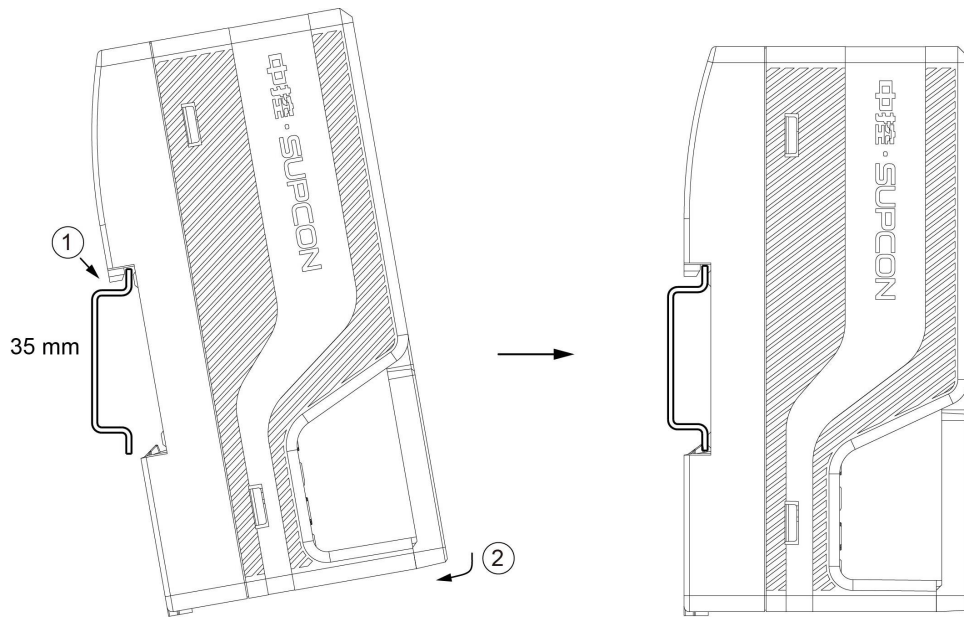

Figure 6-2 Mount the module
- 1) Attach the side without buckle of the module to the rail, as ① shows in Figure 6-2.
- 2) Rotate the module and fix the side of active buckle into the rail as ② shows in Figure 6-2 to complete the installation.